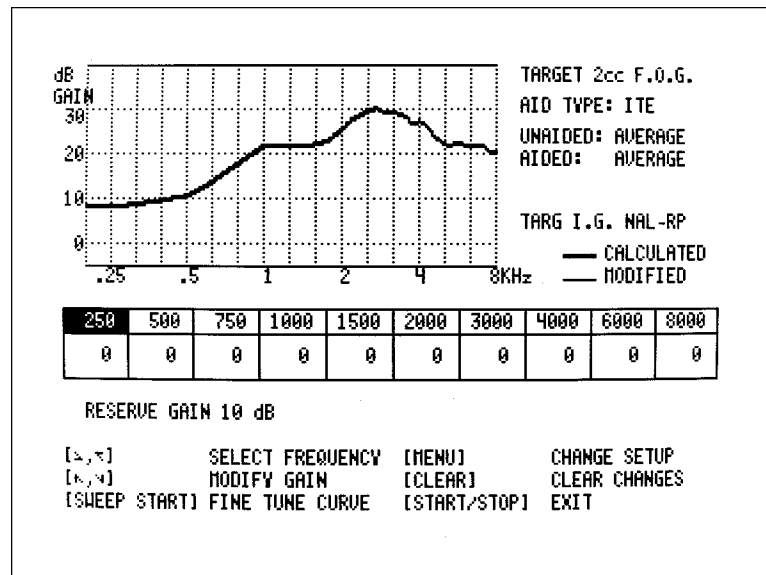

Figure 8.5.2—Target 2 cc FOG
6. Press [START/STOP] to get to the Target 2-cc FOG Screen. See Figure 8.5.2.